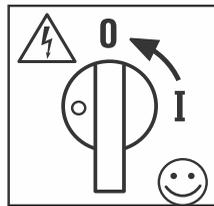

Fig.: 9
1. Allow for an external mains switch 1 (fig.9, See Pg 9) in order to be able to switch the system dead at any time.
- Allow for an external mains switch 1 (Fig. 9) in order to be able to switch the system dead at any time